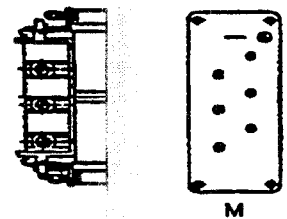

Figure 37 DIN male connector.
- 134 Connection via an industrial Harting 6HSB connector in accordance with DIN 41640 (see Figure 37).